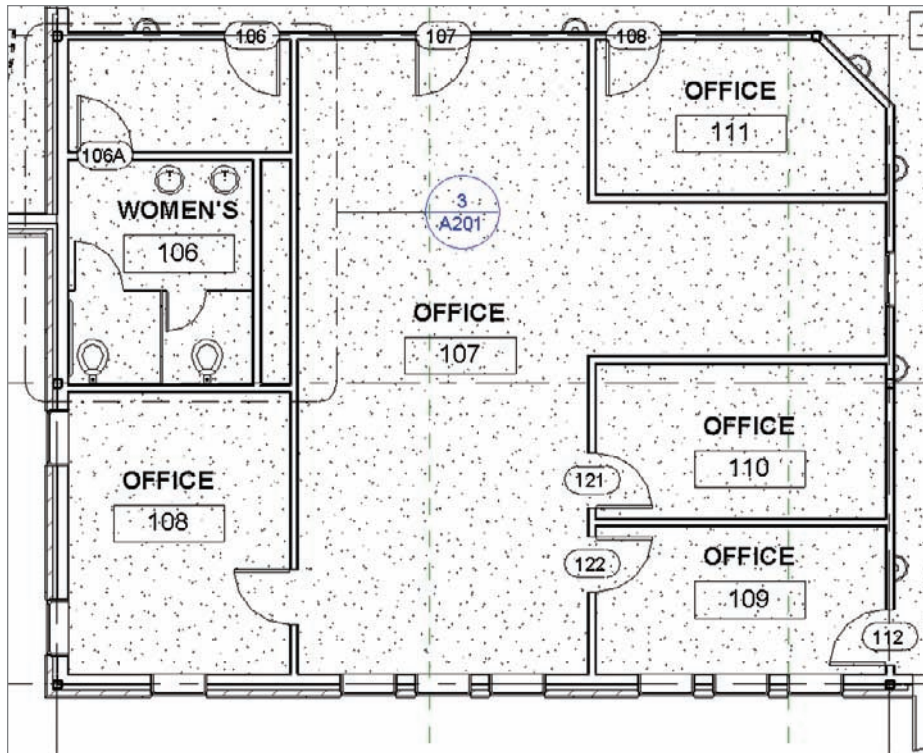

FIGURE 15.6 Naming the Women's lavatory
17. In the south lavatory, add a room named WOMEN'S 106 as shown in Figure 15.6.
4. Rename the room to OFFICE. Change the number to 107, as shown in Figure 15.6.